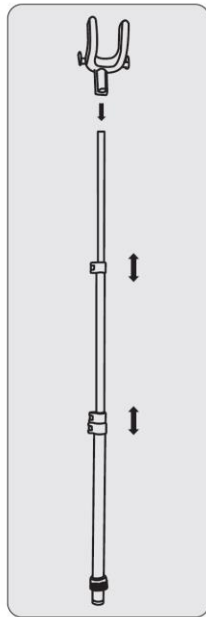

Fig.1
1. Put the hanger within in the telescopic pole along the flute. (See Fig.1)